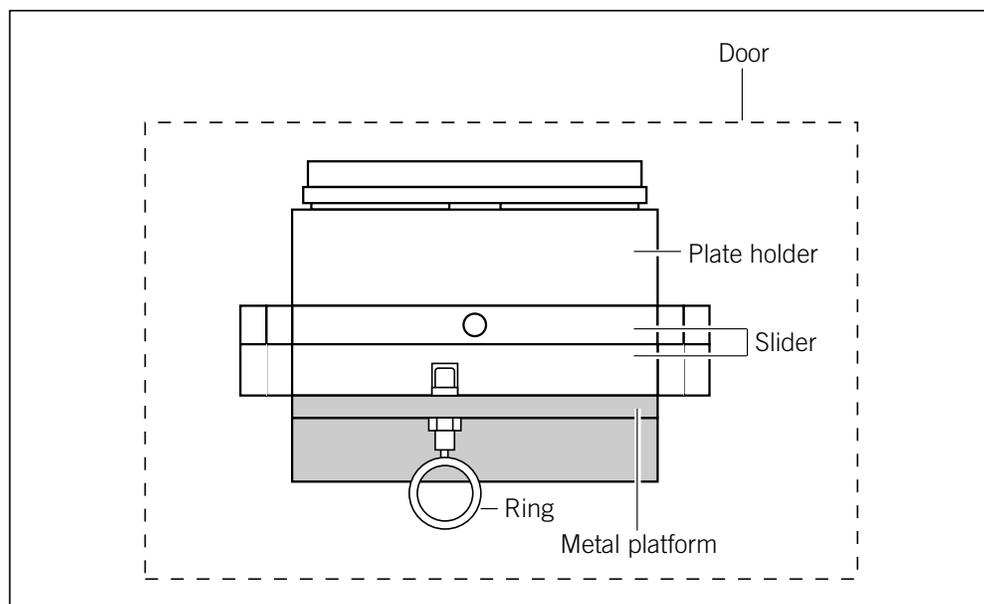

Figure 18-1. The cathode slider, front view.
2. Using a screwdriver, reach under the slider and pull down on the ring hanging below the stage (figure 18-1). The ring is approximately 10 cm (4 in) from the drawer.